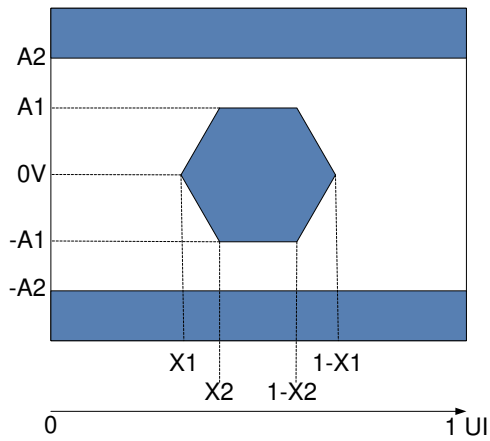

Figure 5-11. HSSI Eye Characteristics
(1) All power supply connections are required to operate the DMD: V_{DD}, V_{D_{DA}}, V_{OFFSET}, V_{BIAS}, and V_{RESET}. All V_{SS} connections are required to operate the DMD.
(2) All voltage values are with respect to the ground pins (V_{SS}).
(3) To prevent excess current, the supply voltage delta | V_{D_{DA}} - V_{DD} | must be less than the specified limit.
(4) To prevent excess current, the supply voltage delta | V_{BIAS} - V_{OFFSET} | must be less than specified limit.
(5) Supply power dissipation based on three global resets in 200μs.
(6) LVC MOS input specifications are for pin DMD_DEN_ARSTZ.
(7) LVC MOS output specification is for pins LS_RDATA_A and LS_RDATA_B.
(8) Refer to Figure 5-11, Receiver Eye Mask (1e-12 BER).
(9) Defined in the *Recommended Operating Conditions*
- (5) See Figure 5-11 for rise time and fall time for HSSI Eye Characteristics.